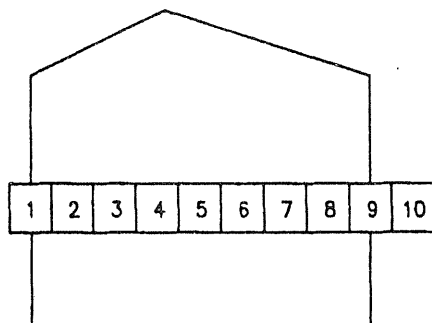

Fig. 4.53 : Full pitched coil
- Suppose the pole pitch is 8. As shown in figure 4.53 if one side of the coil is placed in the slot No. 1 and the other side is kept in slot No. 9, then the coil pitch becomes equal to the pole pitch. So if the winding is done according to this, the winding is called the full pitched winding.